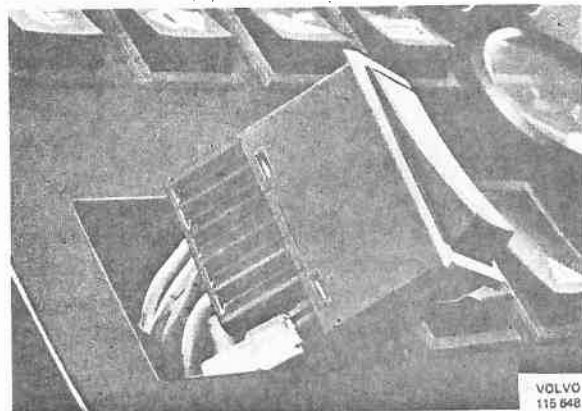

Fig. 36-24. Rocker-type switch
2. Push out the entire switch assembly with contact and bulb holder, see Fig. 36-24, from the rear side of the facia.